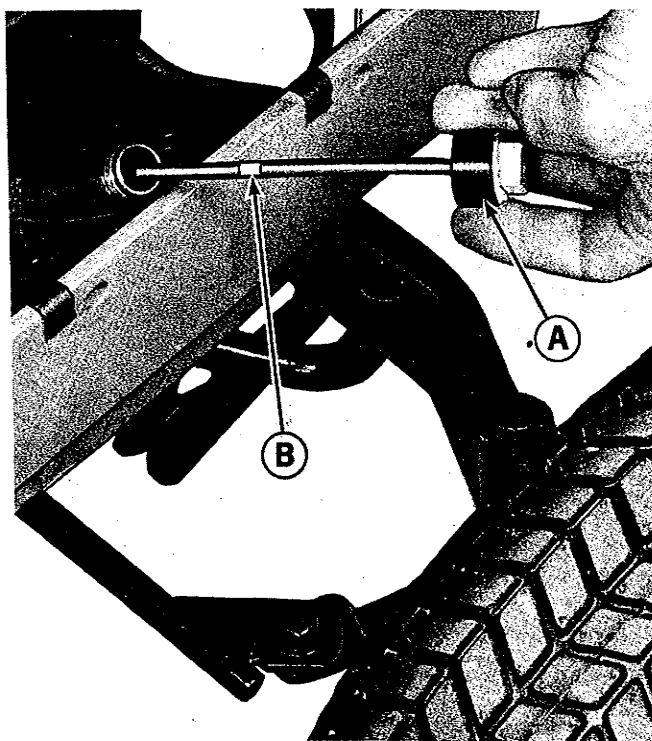

Figure 16. Checking the engine oil at right front of tractor.
**CHECK ENGINE CRANKCASE OIL LEVEL:** See figure 16. If the engine has been running, allow a minute or two for the oil to drain down into the crankcase before checking the oil level. Proceed as follows:
1. See figure 16. Turn the engine oil filler cap-dipstick (A) counter-clockwise and lift it out.
5. If the oil is below the full line (B) shown in figure 16, add enough oil to bring the oil level up to the full mark. Use the same grade and weight of oil which is already in the engine. **DO NOT OVERFILL THE CRANKCASE.**
4. See figure 16. Remove the filler cap-dipstick (A) and pour (2 quarts) of oil into the engine through the oil filler pipe, being careful not to allow any dirt or foreign material to contaminate the oil.
5. Check the oil level. It should show up to the full mark (B) on the dipstick.